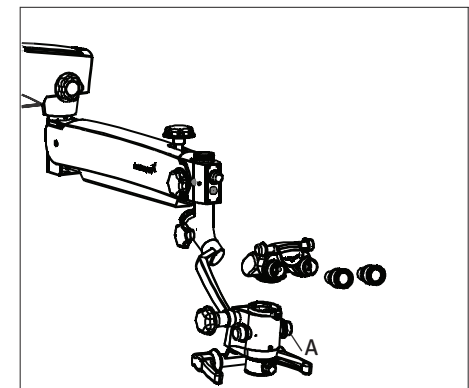

Fig. 46
- Take out the observation head (as ordered) and eye pieces from the box Refering fig 46, loosen the tightening screw 'A' using 2mm Allen wrench (provided) and fit the observation Head in position carefully in the eye pieces in both eye tubes and set both dioptre to zero .